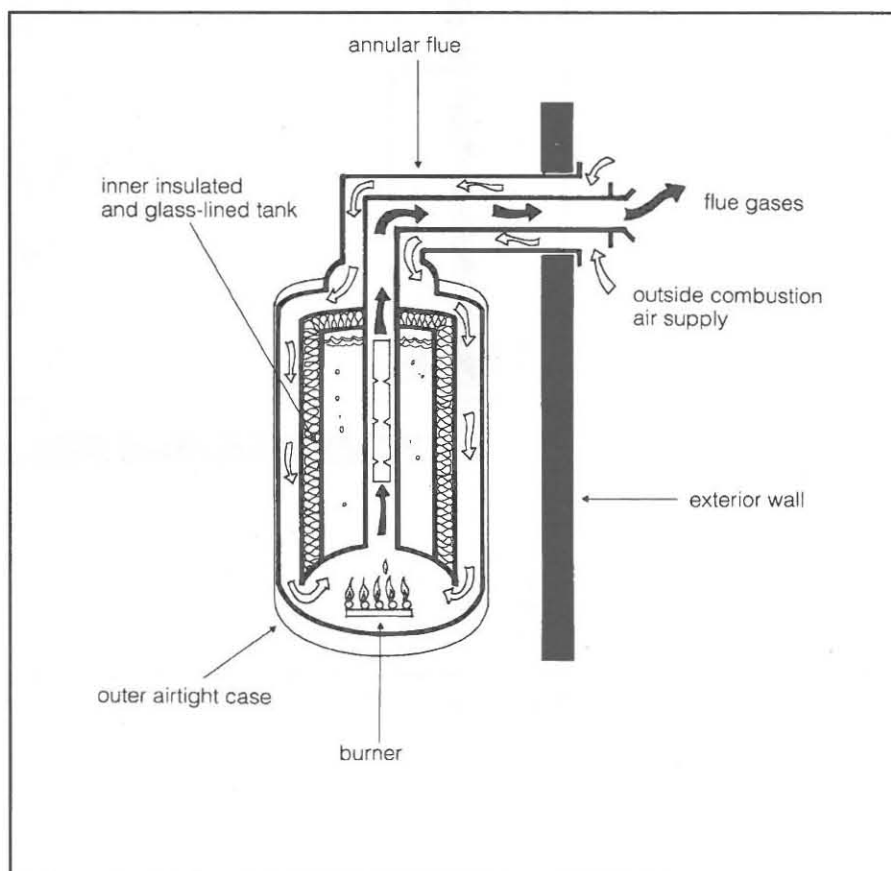

Fig. 10. Direct-vent gas hot water tank
- Use a sealed combustion gas-fired water heater or boiler (*fig. 10*). This type of device isolates the combustion venting system from the interior of the house. The water heater or boiler is side-vented and must be located next to an outside wall. If a side vented appliance is used in conjunction with an induced-draft furnace, the B-vent going through the roof can be eliminated.